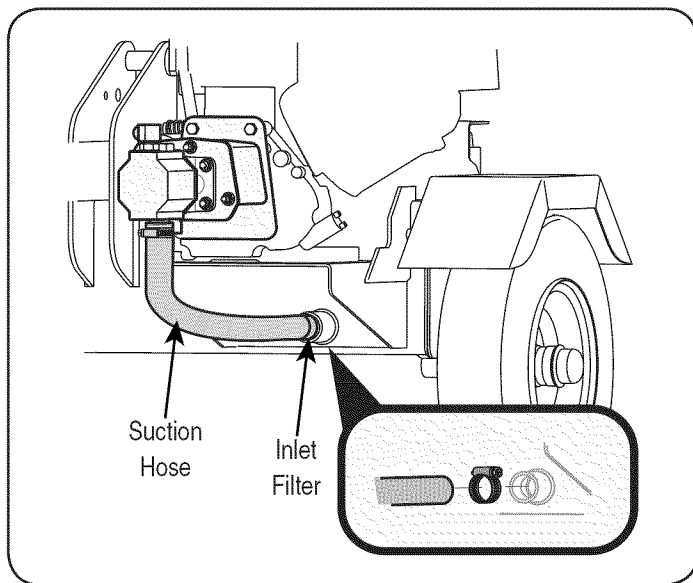

Figure 18
2. Disconnect the suction hose from the bottom of the reservoir tank. See Figure 18.